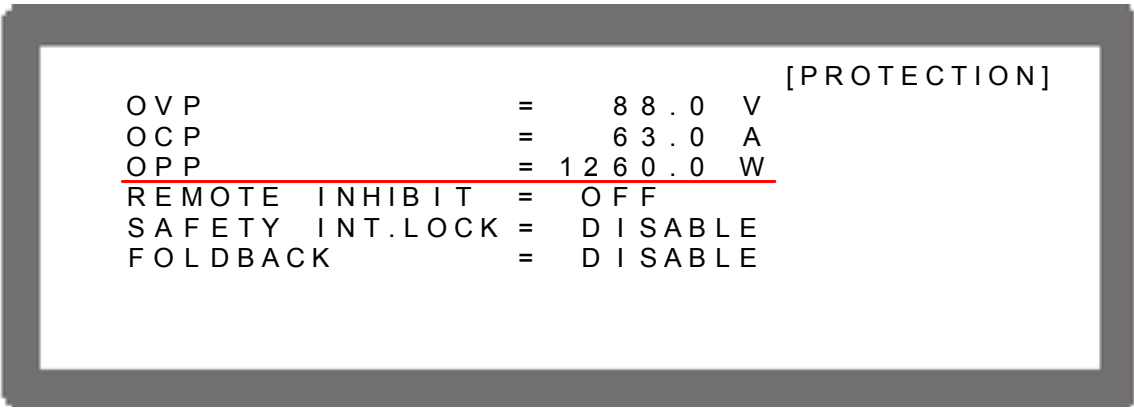

Figure 3-77
1. Use “”, “”, “”, “” keys to move the cursor to the column to be set as Figure 3-77 shows.